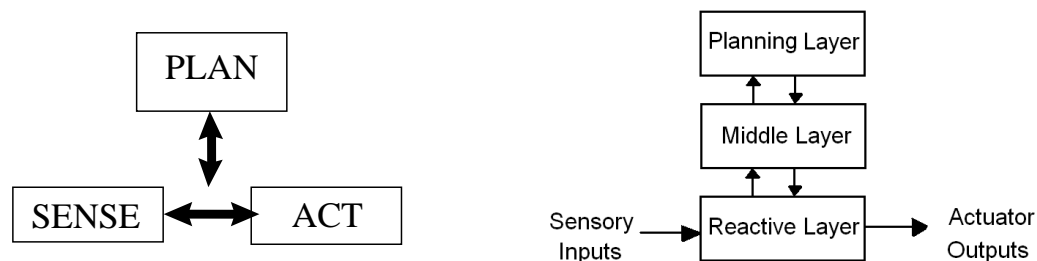

Figure 1: Homing Hybrid Control Architecture
1. The hybrid control architecture that you will implement to home the robot includes a reactive layer (obstacle avoidance, wall following, move to goal, path update), middle layer (arbitrator), and deliberative layer (current state, path plan back to wall). This architecture is shown in Figure 1. Your code should be written in a modular fashion with functions such that it is evident where the planning, sensing and acting take place.